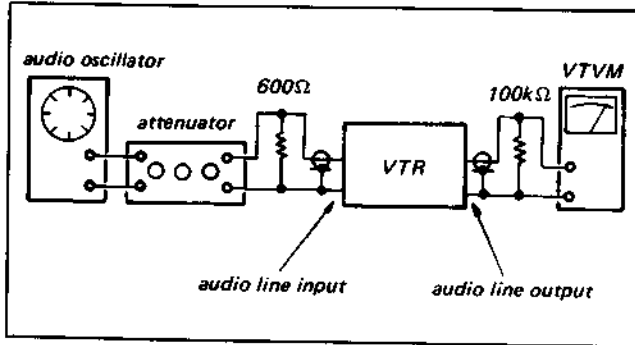

Fig. 3-56. Connections
The connections of the equipment to the input/output terminals are shown in Fig. 3-56.
- 3) Adjust the azimuth adjustment screw on the audio head for a maximum VTVM reading. (See Fig. 3-56).